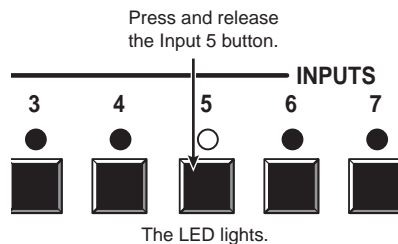

Figure 3-6 — Select an input
3. Press and release the input 5 button (figure 3-6).